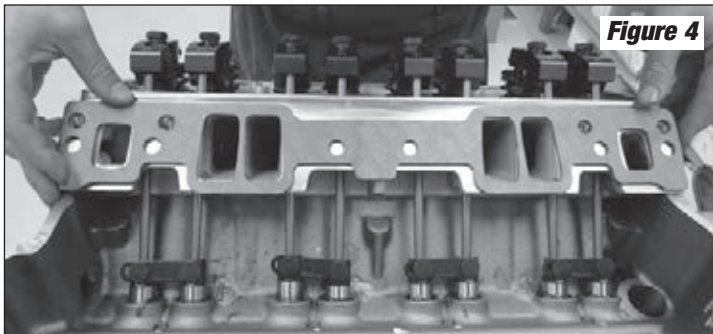

Figure 4
3. Within a few minutes, the Gasegacinch will become tacky to the touch. Carefully place the supplied gaskets onto the head surface, aligning the ports and bolt holes (See Figure 4).